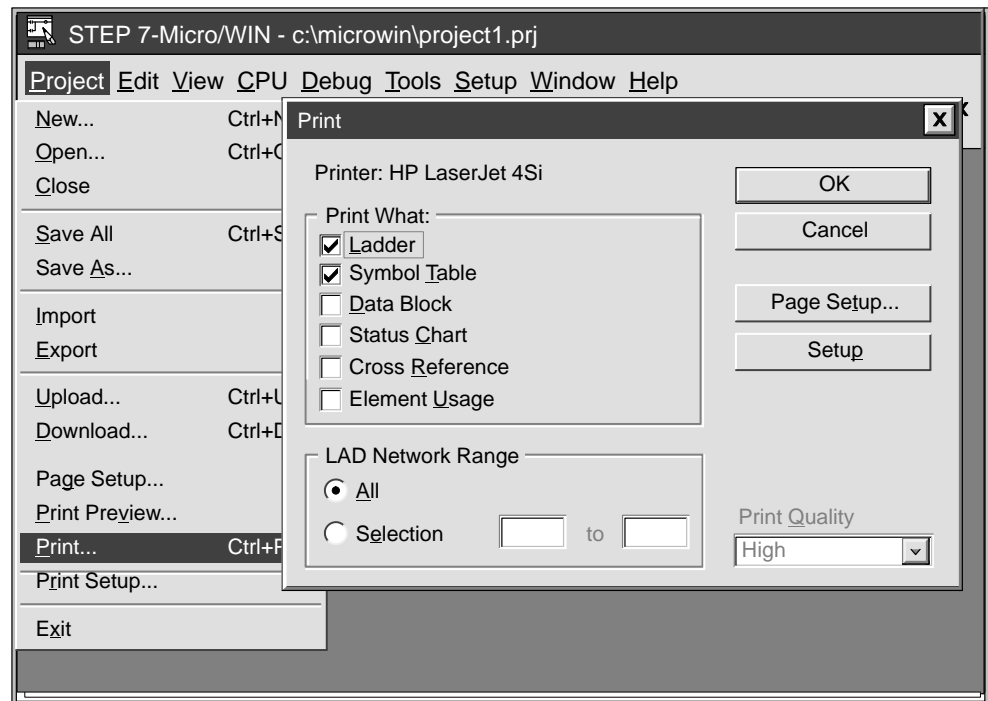

Figure 5-24 Print Dialog Box
- Select **Project ► Print...** to print your program. Select what you want to print, then click the “OK” button. See Figure 5-24.
1. Select **Project ► Print...** The Print dialog box shown in Figure 5-24 appears.